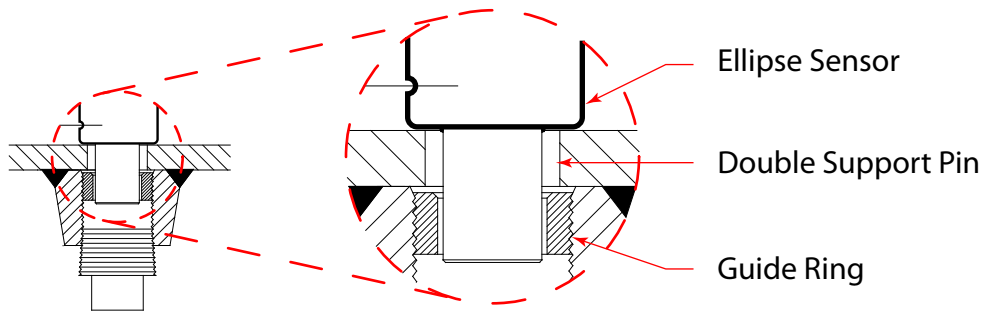

Figure 7: Double support pin
- Install the AR Ellipse sensor through the two holes. Make sure that the double support pin passes through the guide ring. See Figure 7.